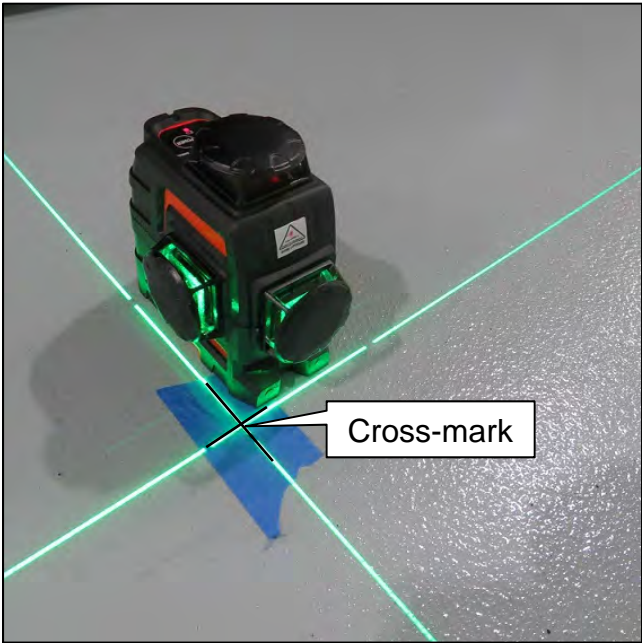

Figure 74
50. Place a cross-mark on the floor below the laser line (Figure 74).